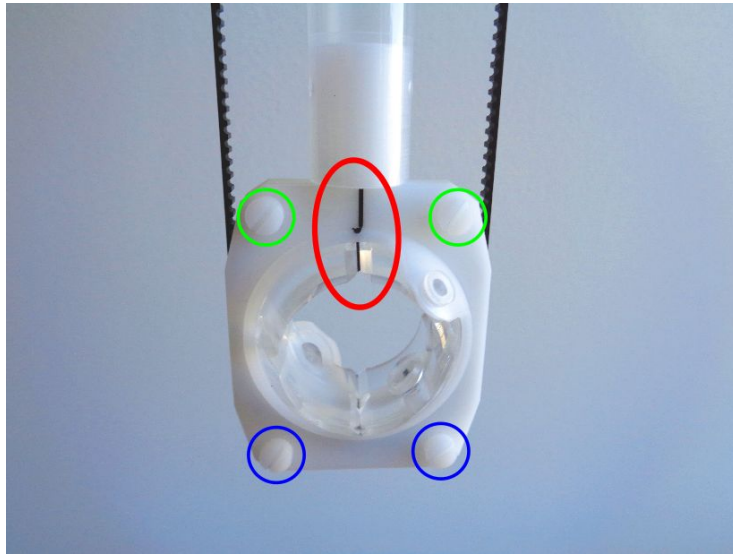
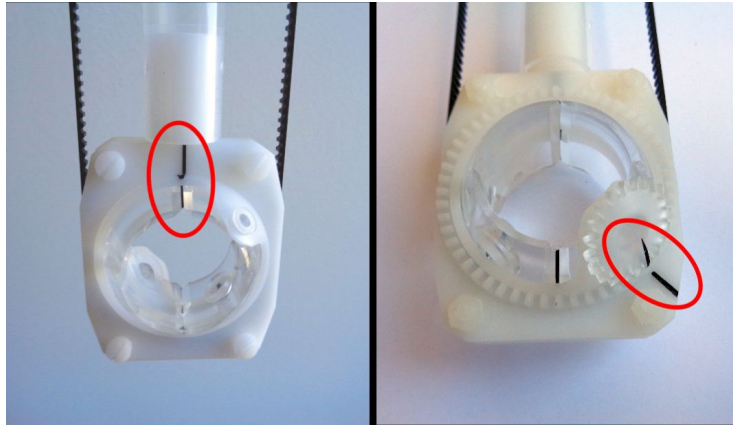

Figure 2: 3D shell
Figure 5: Aligned position of 3D shell
- Unscrew two screws marked by blue circles and also two screws marked by green circles in Figure 2. Set aside white rectangular plate.
- Insert the rotator shell into the its bottom part of holder. Make sure that the marks shown on Fig. 5 are simultaneously aligned as on the picture. Then cover it with rectangular plate and carefully screw two plastic screws marked on Fig. 2 by green circles.
- Put on the driving **belt** and make sure that all the marks shown on Fig. 5 and 6 are simultaneously aligned as on picture.
- Gently screw two plastic screws marked on Fig. 2 by blue circles. Do not forget to use pads to keep entire system in correct position.